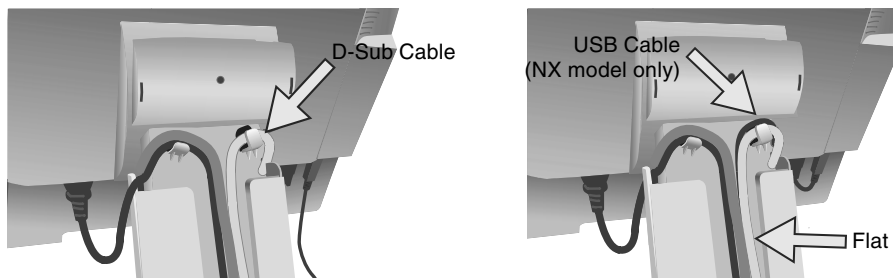

Figure C.3 (Picture: LCD2070NX model)
8. Make sure all cables are resting flat against the stand (**Figure C.3**).